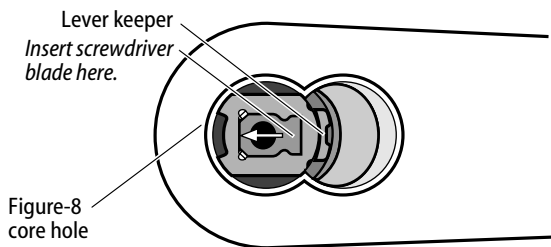

Figure 6 Removing the outside lever
- 3 Press the screwdriver blade in the direction of the arrow in Figure 6.